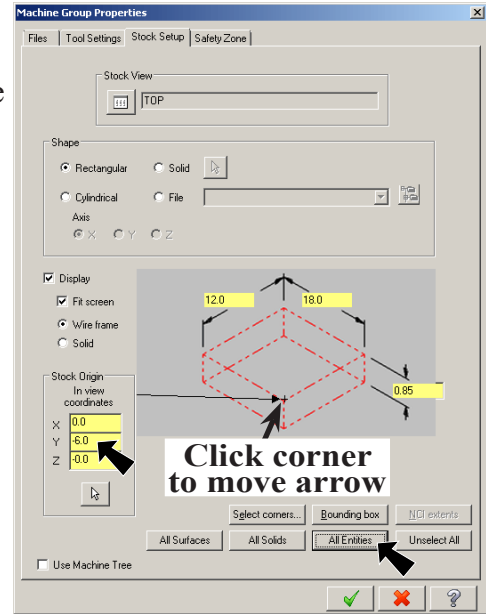

Fig. 15
Step 5. Click the **right front top corner of the stock** to move the origin, **Fig. 15**. After you click corner the arrow will point to corner.
Step 6. Click **All Entities** button in the Stock Setup, **Fig. 15**.
Z 0, **Fig. 15**.